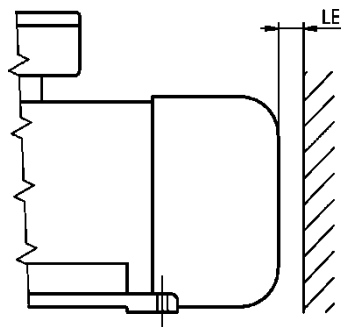

Figure 2: Minimum distance of obstacles from the air opening
(→ Figure 2 and → Table 2).
Table 2: Minimum distance (LE) of an obstacle from the air opening. → Figure 2